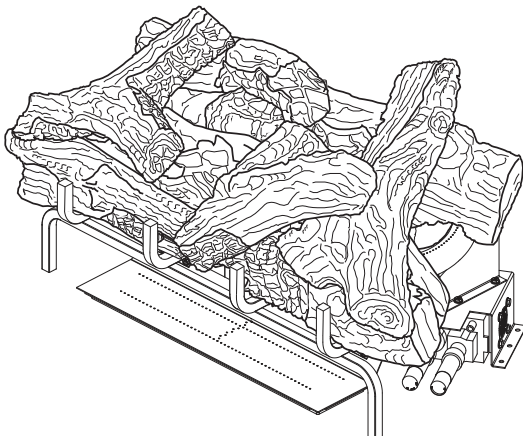

Figure 36 - Final Assembly
9. Final Assembly is shown in **Figure 36, Page 21**.